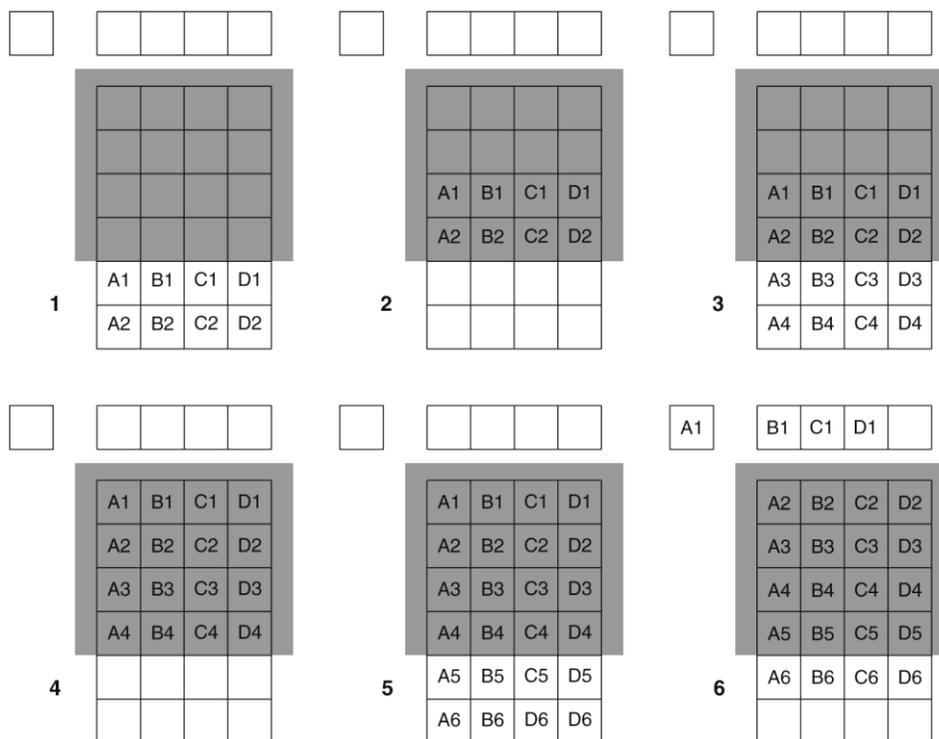

Figure 38. Kinetics Readout
Below is a simplified illustration of kinetics mode. Returning to our  $4 \times 6$  CCD example, in this case  $2/3$  of the array is masked, either mechanically or optically. The shutter opens to expose a  $4 \times 2$  region. While the shutter remains open, charge is quickly shifted just under the mask, and the exposure is repeated. After a third image is collected the shutter is closed and the CCD is read out. Since the CCD can be read out slowly, very high dynamic range is achieved. Shifting and readout are shown in Figure 38.
**Example:** Referring to the readout shown in Figure 38, there are 6 pixels perpendicular to the shift register and the Window Size is 2 pixels high. The number of frames is 3. If the Vertical Shift rate for the CCD is 1600 ns/row, the Shift time will be 3200 ns per frame.